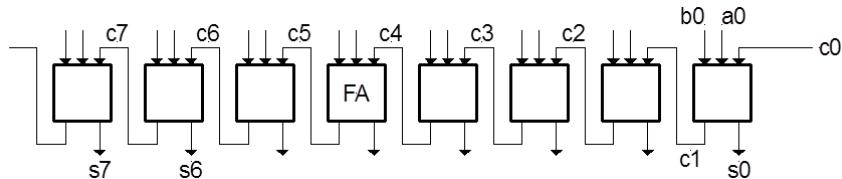

Figure 2: An 8-bit Ripple Carry Adder using FAs
The ripple-carry adder, which is going to be implemented, is designed as a chain of Full Adders (FA), as is depicted in Figure 2. Each FA has three **inputs**(c_i, a, b) and two **outputs**(c_{i+1}, s), as presented in Figure 2. The third input (c_i) is the carry-in and is generated by a previous full adder. Draw the **data-flow** diagram of a FA, based on the truth table of Table 1. You first need to write down the Boolean expressions that describe the functionality of the FA. Then write the VHDL for the FA in a file with name FA.vhdl.